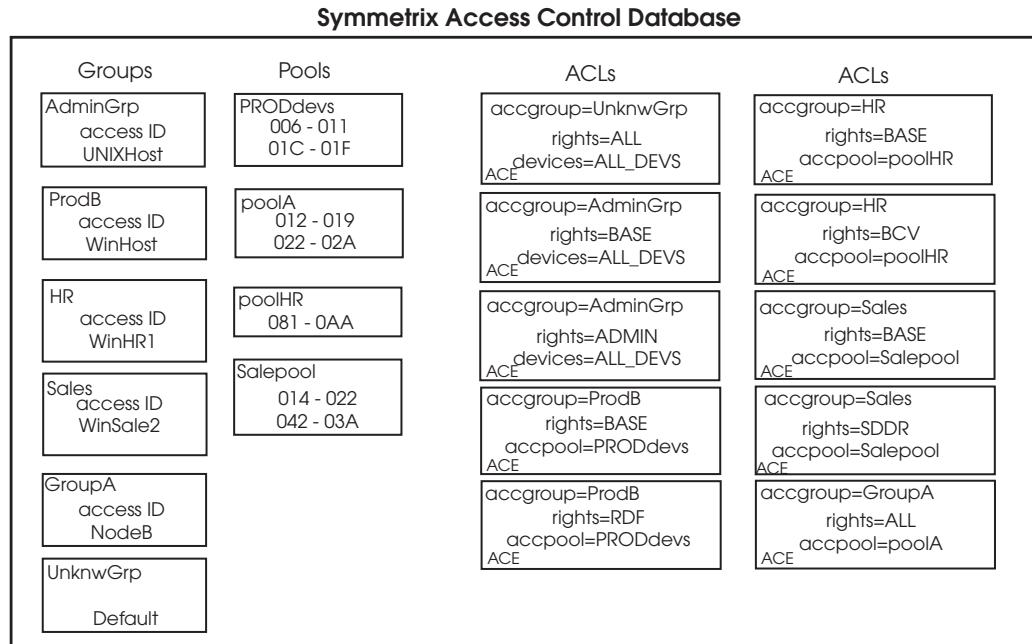

Figure 2 ACLs and ACEs in the Symmetrix Access Control database
A Symmetrix-based access control database (shown in Figure 2) contains all the mechanisms or information to govern access to Symmetrix access pools.
- ◆ **Access Control Lists (ACLs)** — A group of ACEs that are associated with the same group. For example, in Figure 2, the ACEs that are associated to group HR comprise an ACL in the database.
Typically various sets of users tend to use the same applications that utilize common Solutions Enabler features from a given host. They typically require the same device resources and permissions of access to these shared devices. For this reason, hosts are registered in groups identified with a group name, which serves as a root for all ACEs in the group (see Figure 2 on page 145).